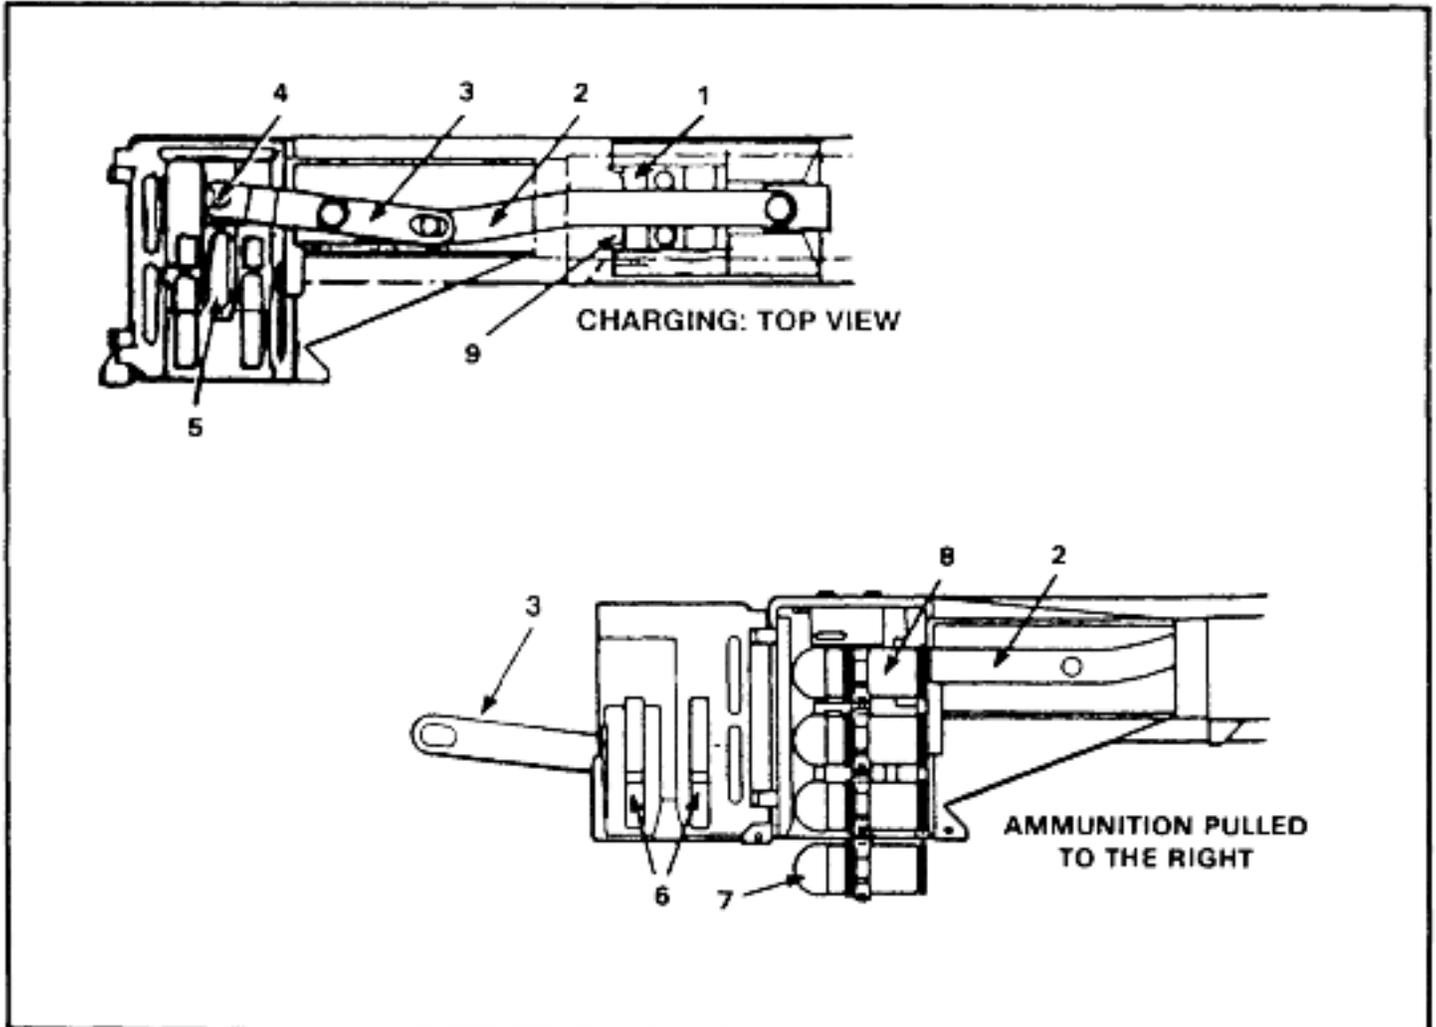

Figure 2-25. Charging cycle.
- a. Charging. The charger handles (Figure 2-25) are to pull the bolt (1) to the rear, aligning the round the bolt extractors. The rearward movement of the bolt causes the primary drive lever (2) to move to the left, which moves the secondary drive lever (3) to the right. The forked end of the secondary drive lever, which rests on the inner feed slide assembly pin (4), move the feed slide